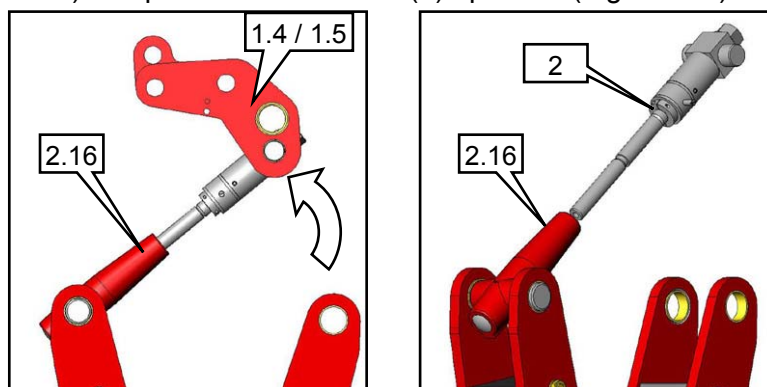

Fig. 12:
- Swivel both levers (1.4 / 1.5) complete with AWC unit (2) upwards (Fig. 12 left).